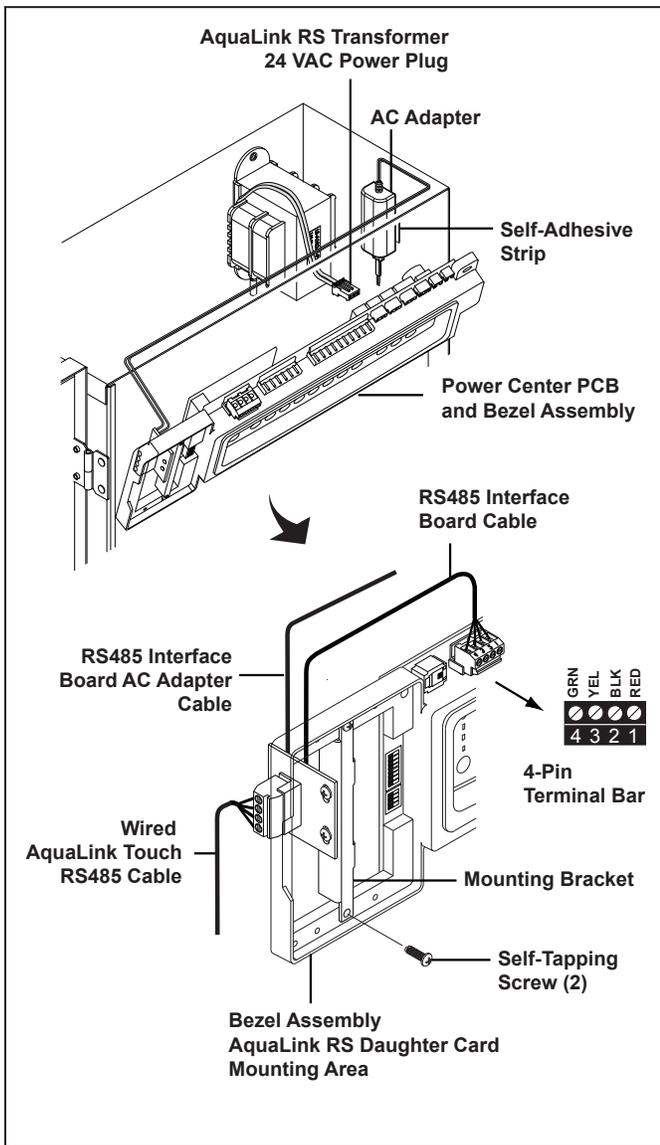

Figure 8. Installation of the RS485 Interface Board Assembly
4. Unplug the AquaLink RS transformer 24 VAC power plug from the 24 VAC 3-pin terminal on the power center as shown in Figure 8.
8. Secure the RS485 interface board and mounting bracket to the daughter card mounting area in the bezel assembly with two (2) self-tapping screws provided in the kit. See Figure 8.
9. Remove the red, 4-pin terminal bar from the power center PCB and bezel assembly and secure each of the four (4) color wires of the RS485 interface board cable to their corresponding color into the 4-pin terminal bar. Reconnect the 4-pin terminal bar to the power center PCB and bezel assembly.
10. Remove the red, 4-pin terminal bar from the RS485 interface board and secure the AquaLink Touch RS485 four (4) color cable to the red, 4-pin terminal bar. Reconnect the 4-pin terminal bar to the RS485 interface board.
3. Unplug the AquaLink RS transformer 24 VAC power plug from the 24 VAC 3-pin terminal on the power center PCB and bezel assembly as shown in Figure 8.